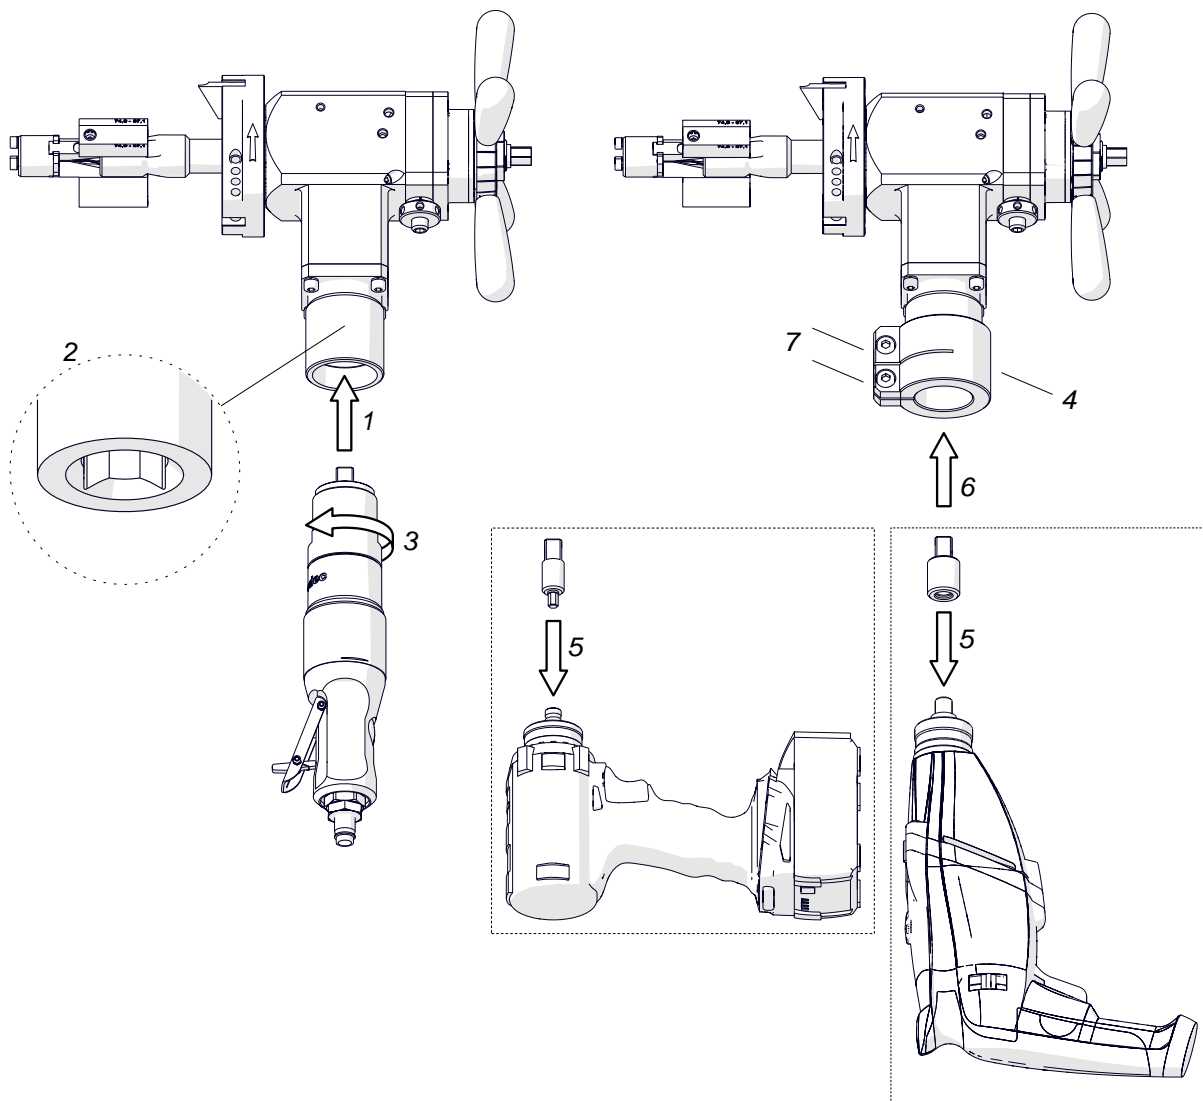

Fig. 4. Installing the air, electric, and battery motor
When you use the air motor, put it into the machine (1, Fig. 4) so that the arbor is in the socket (2). Then, rotate the motor to the left (3) to tighten.